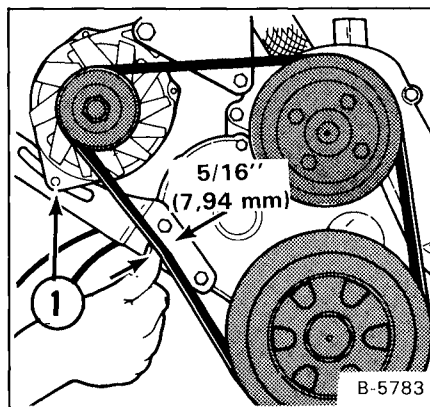

Fig. 74 Belt Adjustment
2. Loosen the adjustment bolt (Fig. 74, Item 1) and move the alternator to set the belt tension at 5/16" (7,94 mm) movement between pulleys with 15 pounds of force (Fig. 74). Tighten the adjustment bolt.